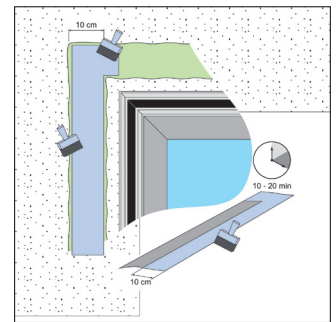

Fig 2: Application of CT113 Contact Adhesive
- Bonding onto porous materials (also non-porous materials resistant to the adhesive solvent) is achieved using CT113 Contact Adhesive which is applied by brush or roller in an even layer to BOTH bonded surfaces (see Fig. 2).